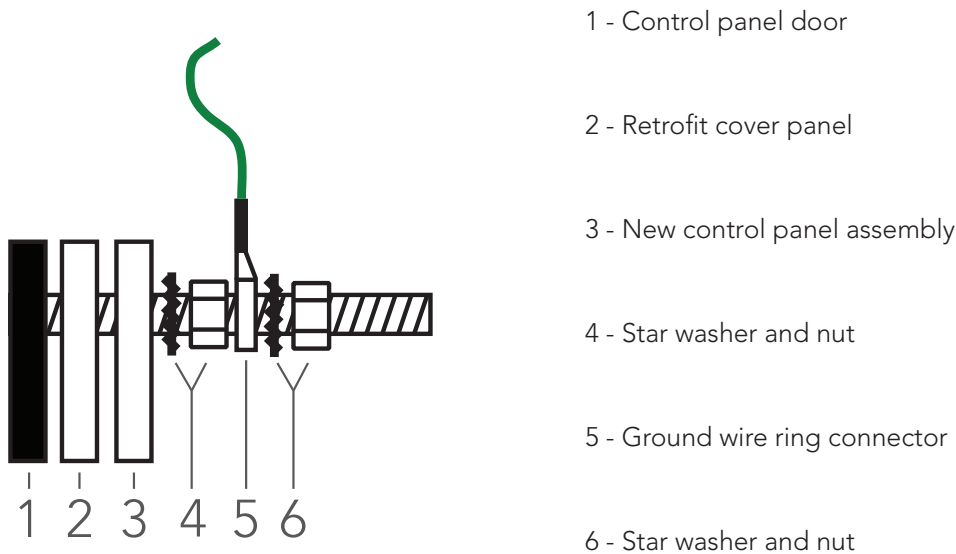

Figure 11
- 15. From the lower wire bundle, locate the ground wire. Attach ground wire ring connector to threaded stud and secure with additional lock washer and nut (Figure 11). Do not to overtighten.